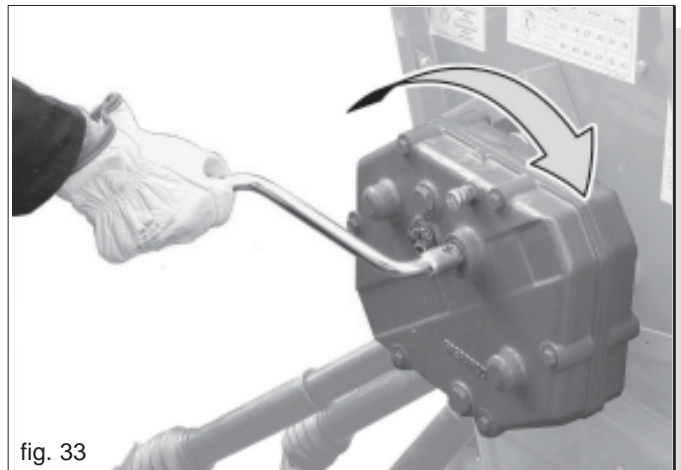

fig. 33
- 4) Insert the crank (Fig. 33) on the gearbox shaft and rotate clockwise.